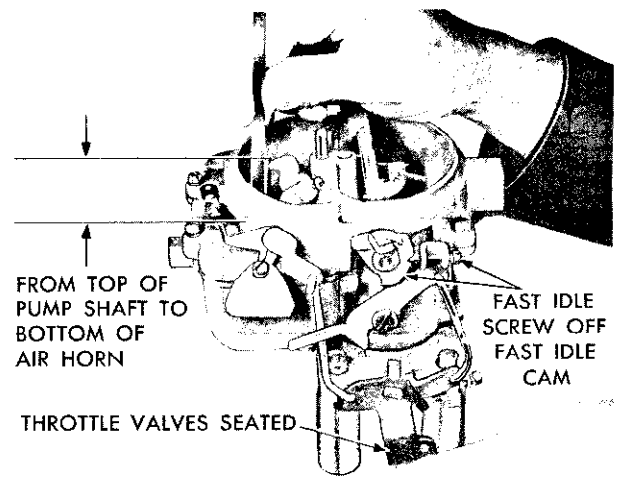

Fig. 15—Measuring Accelerator Pump Travel
(1) Back off the idle speed adjusting screw. Open the choke valve so that the throttle valves can be completely seated in the bores. Be sure that the pump connector rod is installed in the center hole of the throttle lever.
(2) Close the throttle valves tightly. Measure the distance between the top of the air horn and the end of plunger shaft, as shown in Figure 15. This measurement should be $1'' \pm$ or $- 1/64$ inch.
(3) To adjust pump travel, bend the pump connector rod, using Tool T109-213, at the lower angle of rod, until correct travel has been obtained.